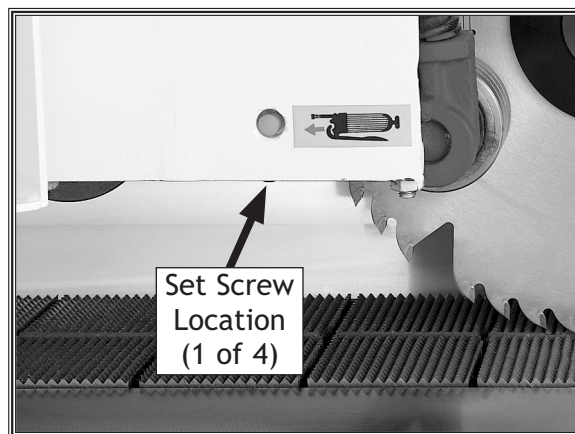

Figure 23. Location of set screws.
4. Use the 3mm hex wrench to replace the four M6-1 X 10 set screws (both sides of the headstock underside) with the four M6-1 x 25 set screws (see **Figure 23**).